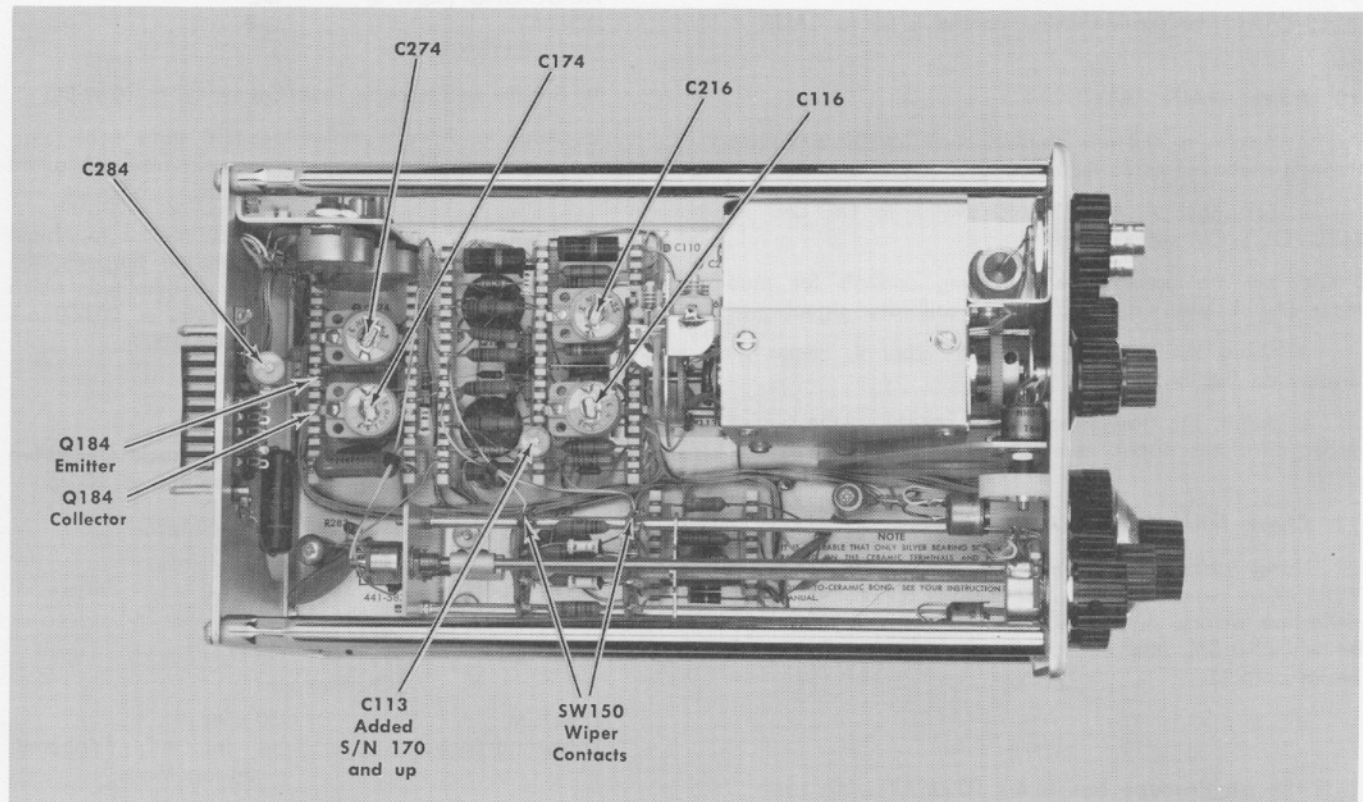

Fig. 5-2. Location of the calibration adjustments and test points (bottom view). Securing rod removed for the illustration.
- a. Connect a short jumper clip lead from one wiper contact of SW150 (MILLIVOLTS/CM switch) to the other (see Fig. 5-2).
- a. Connect a VOM between the emitter and collector leads of Q184 (see Fig. 5-2).
e. Set the oscilloscope Time/Cm switch to 0.2 μ Sec/Cm. Position the display so the waveform starts at a point one cm from the left edge of the graticule as illustrated in Fig. 5-3a. Check overdrive recovery by observing that the waveform level returns to within 10 mv of its original level in a time duration of 0.3 μ sec (see Fig. 5-3a). If overdrive recovery is greater than 10 mv, set the oscilloscope Time/Cm switch to 2 μ Sec and adjust C116 (see Fig. 5-2) for best flat top (see Fig. 5-3b). The front corner portion of the flat top should be equal amplitude above and below the trailing edge. To check on the accuracy of the adjustment, repeat the first portion of this step (e) to recheck overdrive recovery time.
steps 14-c through 14-h with these exceptions: Use —Int triggering. When performing step 14-e, check overdrive recovery on the inverted waveform. If the waveform does not return to within 10 mv of its original level within 0.3 μ sec, adjust C216 (see Fig. 5-2) to obtain the proper display.
m. Check that the DISPLAY switch is set to A-B. Adjust the oscilloscope Triggering Level control, if necessary, to obtain a stable display. Using the W Unit POSITION control, position the display near graticule center. If the display is more than one cm in amplitude for W Units S/N 170 and up, adjust C113 (see Fig. 5-2) so the display is one cm or less in amplitude as shown in Fig. 5-3d. After adjusting C113 and the display is more than one cm, readjust C116 and C216 slightly to reduce the amplitude to the proper amount. In amplitude of one cm or less is a common-mode rejection ratio of 20,000-to-1 or better. If C116 and C216 are readjusted, repeat this entire step (14-a through 14-m).